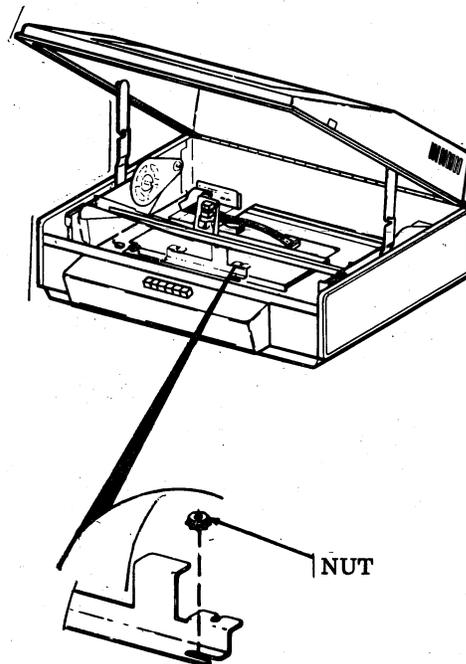

Fig. 17—Controller Removal 40C303AD Shown
- (a) Loosen nut at each end of clamp (Fig. 17).